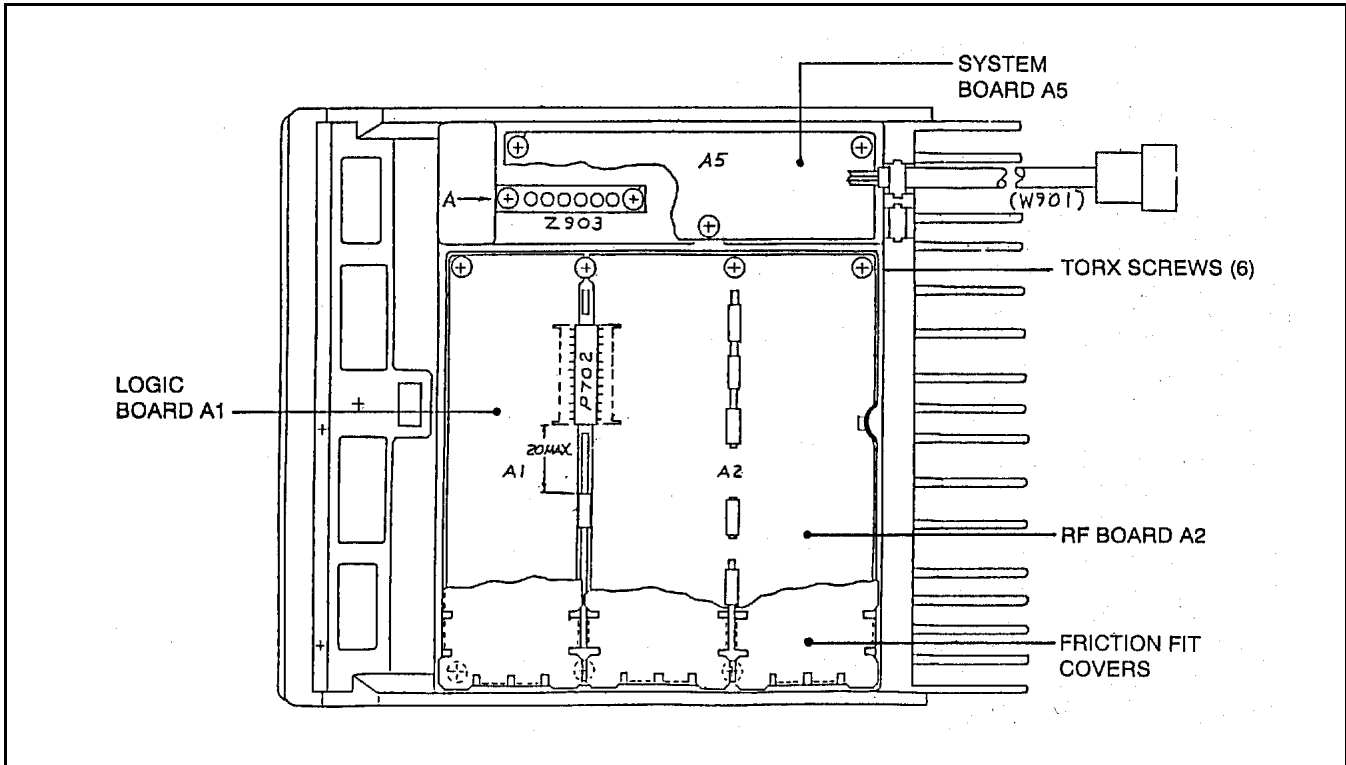

Figure 3 - Bottom View Without Duplexer
2. Refer to Figure 3. Pry off the friction fit covers covering the RF Board.